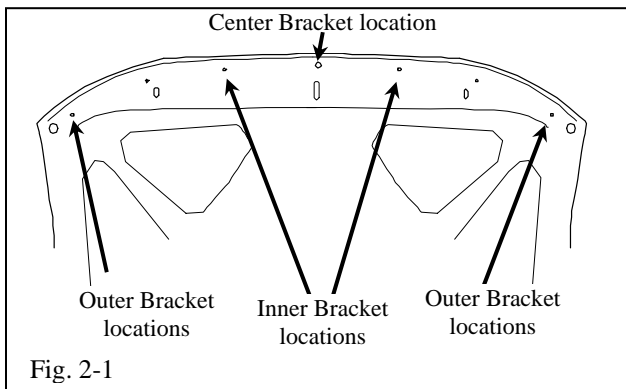

Fig. 2-1
- (1) Clean leading edge of hood (top and bottom) surface using 3M™ Prep Solvent-70.
- (2) Apply one Mylar pad to hood at each of the five (5) bracket mounting locations (Fig. 2-1, Fig. 2-2). Orientate pad with narrow dimension parallel to hood edge.